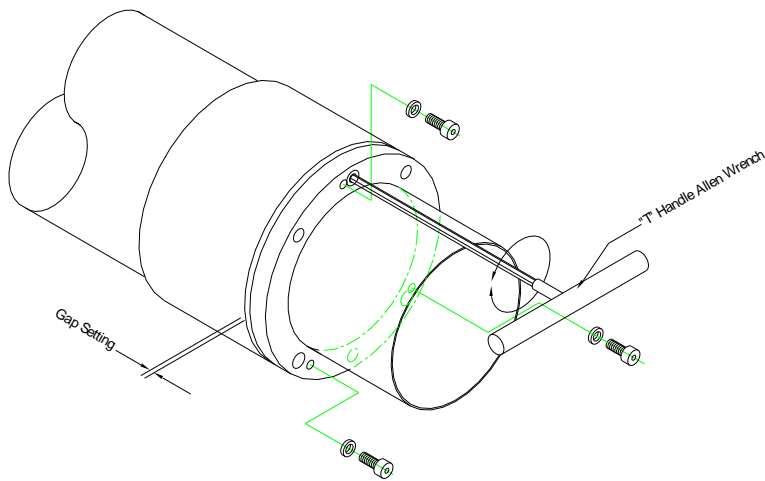

Figure 5: Gas Adjustment
Step 2: Remove 3 ea. Diffuser fastening screws (item 7) and diffuser stand off pillars (item 5).
Step 3: Loosen 3 ea. Jam screw/washer (item 4) on the orifice plate.
Step 4: To DECREASE the gap setting, rotate the gap adjusting screw (item 3) clockwise as illustrated in Figure 5 on the next page. To INCREASE the gap, rotate counter-clockwise. Using a measuring scale or gap gauge, adjust all three screws so that the gap setting is equally maintained around the circumference of the assembly. The orifice plate is free to slide along the primary air tube (item 1).